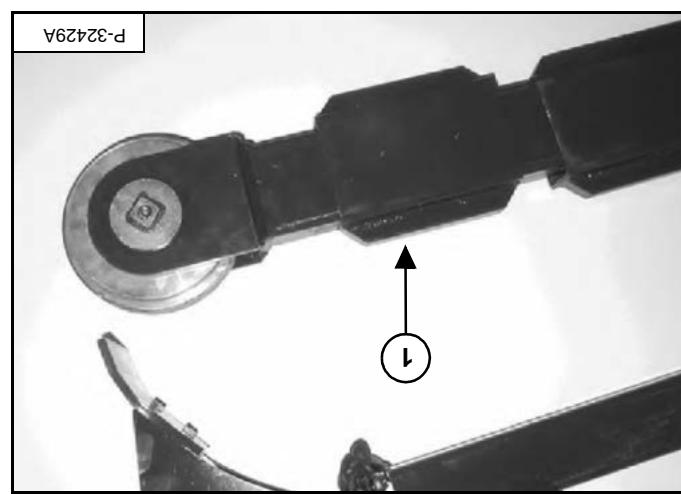

Figure OI-7
Install the tube assembly (item 1) [Figure OI-7] over the grease cylinder sand into the boom.